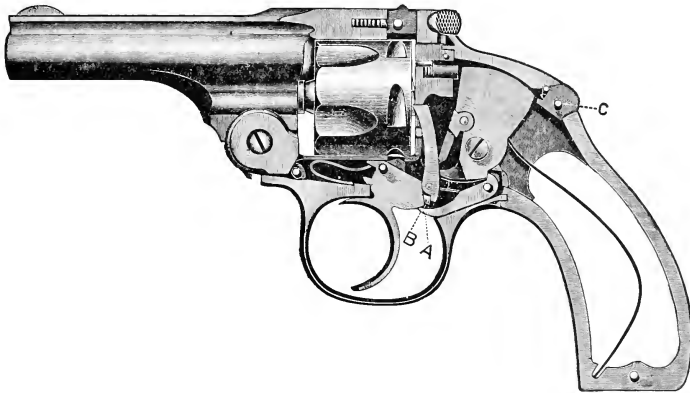

Figure 4.
The advantages of the Hopkins & Allen folding hammer lie in its compactness and neat appearance. No hammer to catch when withdrawing weapon from the pocket, but still, when needed, the hammer can be brought into use, giving the arm the advantage of either single or double action. No possible danger of accidental discharge by hammer striking against an object. As a further safeguard, the heavy lip on sear (A), Figure 4 prevents any possibility of explosion, as the hammer can not be released so as to let the firing pin come in contact with the cartridge, *except when the trigger is pulled back in position for firing*, when it raises the sear and lets the hammer pass by. The lever spring (B), which is embodied in the solid trigger, gives a durable and effective spring, which cannot slip
The automatic hammerless hinge revolver, Figure 4, possesses all the advantageous features of an *absolutely safe* hammerless revolver. The catch, which is thrown in back of the hammer by means of turning the knurled nut (C) forward, prevents any possibility of the hammer being drawn back, and thus any possibility of an accidental discharge. This revolver, as well as other models, is furnished with rebounding lock to serve as a further safeguard, and possesses the advantage of *heavy lip on sear*, and patent lever spring.